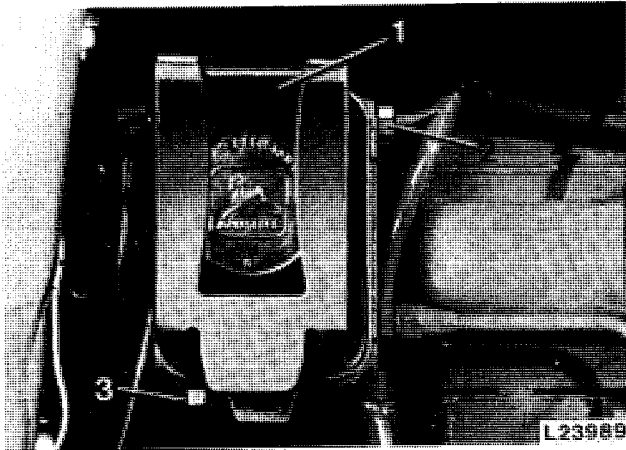

Fig. 8 – Fuel Filter Installed
2. Check fuel filter for water or sediment. If any is present, remove drain plug 3 (fig. 8) and drain it out. Caution customer about importance of proper fuel storage.
3. After draining fuel filter, bleed fuel system. Loosen bleed screw 2 (fig. 8) and work primer lever until fuel flows free of air bubbles. Tighten bleed screw.